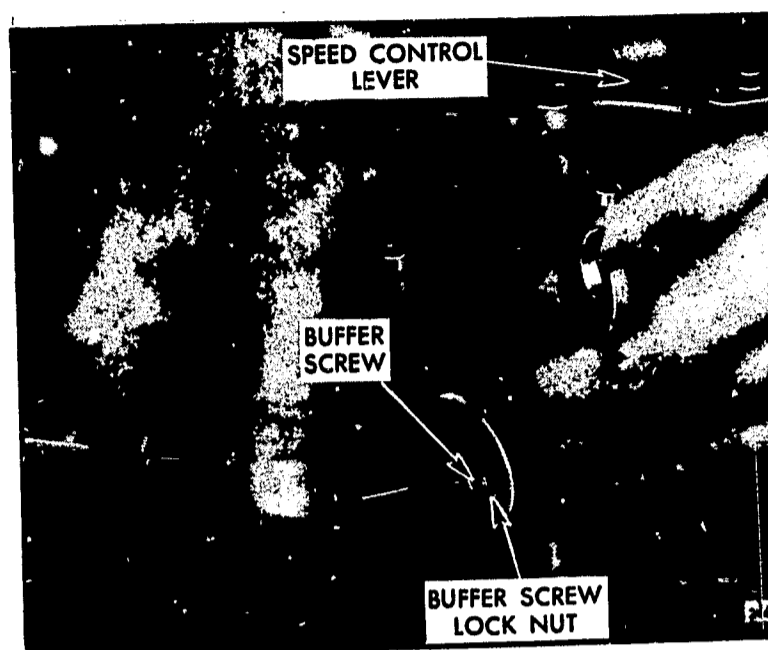

Fig. 12 - Adjusting buffer screw
1. With the engine running at normal operating temperature, turn the buffer screw (Figure 12) in so that it contacts the differential lever as lightly as possible and still eliminates the engine roll.